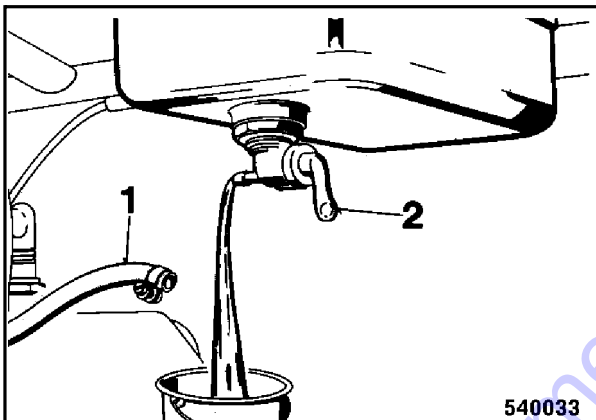

Fig. 1
- Disconnect the fuel hose 1 (Fig. 1) from the fuel shut-off valve (2). Open the fuel shut-off valve, drain the fuel off.
- Unscrew the fuel shut-off valve (2).